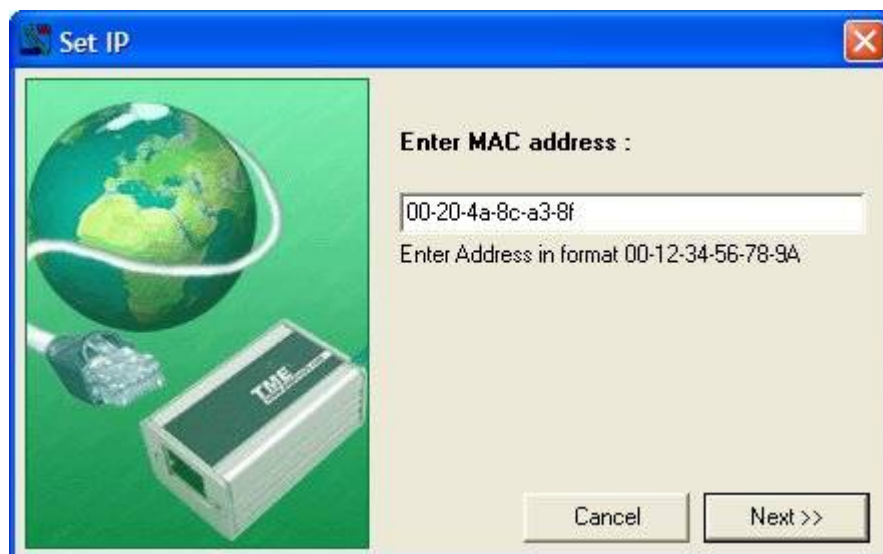
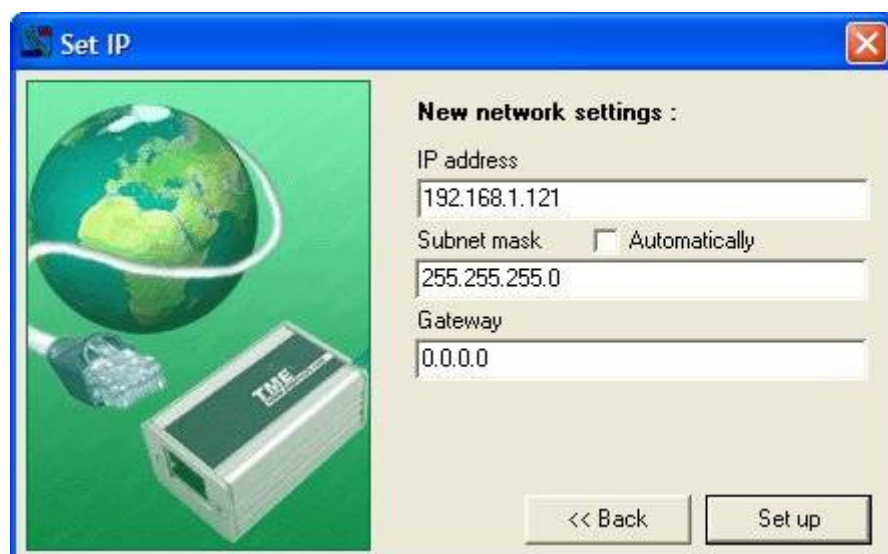

Fig. 7 – the first screen of the new IP setting wizard
Fig. 8 – IP settings wizard > setting the IP address, subnet mask and gateway
- 2) Activate the supplied configuration program2 and click on "IP setting." A wizard is thus opened, in which you first enter the MAC address of the converter (written on the label on the module's side) and then the basic network parameters. (Cf. the description of this wizard under the heading "Set the IP settings" on page 13, and also Fig. 7 and Fig. 8.)
- 2) Activate the supplied configuration program4 and click on "IP setting." A wizard is thus opened, in which you first enter the MAC address of the converter (written on the label on the module's side) and then the basic network parameters. (Cf. the description of this wizard under the heading "Set the IP settings" on page 13, and also Fig. 7 and Fig. 8.)
Using this command, you can assign a new IP address to the converter. This procedure is specifically suitable for connecting converters in production, because the basic parameters can be adapted for a new network. When you click on this button, the window shown in Fig. 7 is displayed. Write the MAC address to look for8 and push "OK."
The entered MAC address is looked for. When it is found, the screen shown in Fig. 8 is displayed.
Set parameters suitable for your network in the screen shown in Fig. 8. If you are not sure what parameters you should choose, contact your network administration, who will give you the required data.